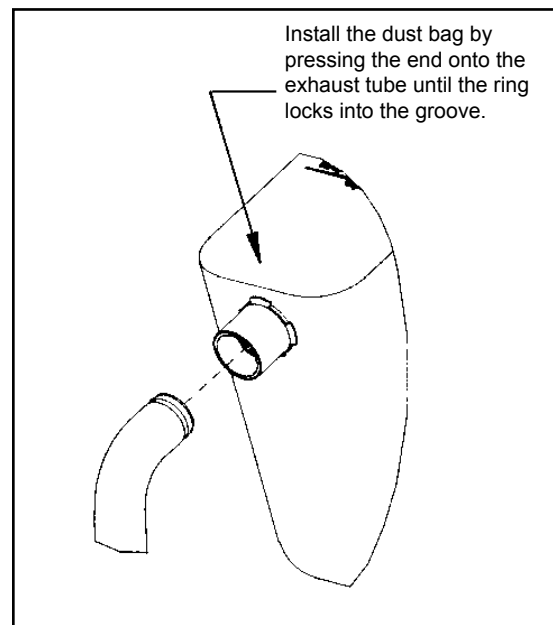

Figure 5
1. Install the dust bag by pressing the end onto the exhaust tube until the ring locks into the groove (figure 5). This is best done by pressing on the back of the bag opening with the palm of your hand.